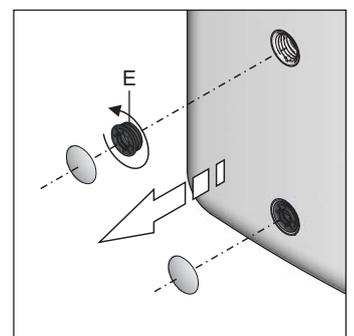

Fig. 5-4 Working steps 2 + 3
- Remove the cover plate from the handle and unscrew the threaded piece (fig. 5-4, item E) from the storage tank container.